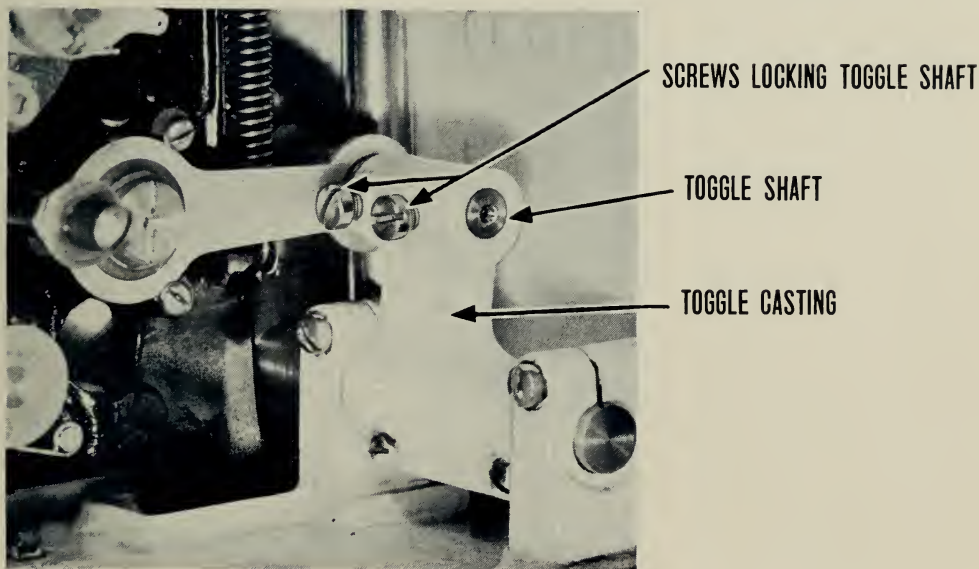

Fig. 17. Toggle casting
3. On the operating side of the mechanism, loosen the two screws on the toggle casting (Fig. 17).